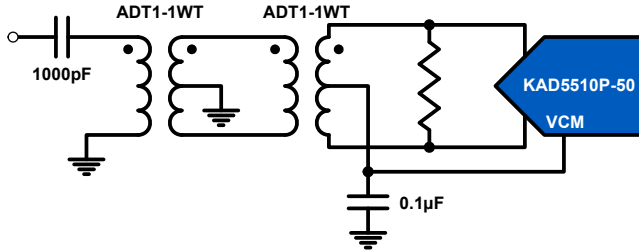

FIGURE 26. TRANSFORMER INPUT FOR GENERAL PURPOSE APPLICATIONS
Best performance is obtained when the analog inputs are driven differentially. The common-mode output voltage, VCM, should be used to properly bias the inputs as shown in Figures 26 through 28. An RF transformer will give the best noise and distortion performance for wideband and/or high Intermediate Frequency (IF) inputs. Two different transformer input schemes are shown in Figures 26 and 27.